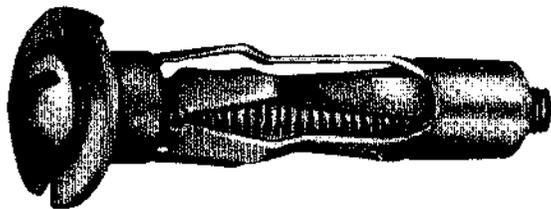

Fig. 30 – Molly and Star Anchor
- A disposable wrench for use in facilitating anchor attachment on soft-textured walls is included in each box of Molly and Star anchors, Fig. 30.